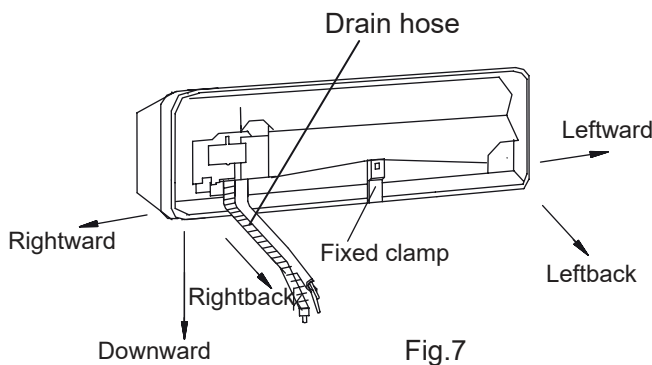
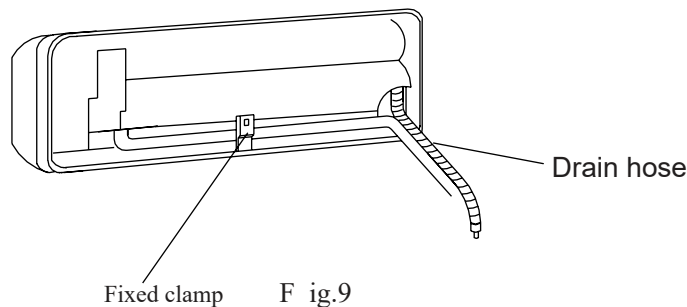

Fig.7
Fig.9
Notes: Left chart is available for the position of drain hose, refer to Fig.7. Right chart is available for the position of drain hose, refer to Fig.9.
(Optional, Refer to Fig.7)
2. Connecting left back tube (similar to left lower tube). (Optional, Refer to Fig9)